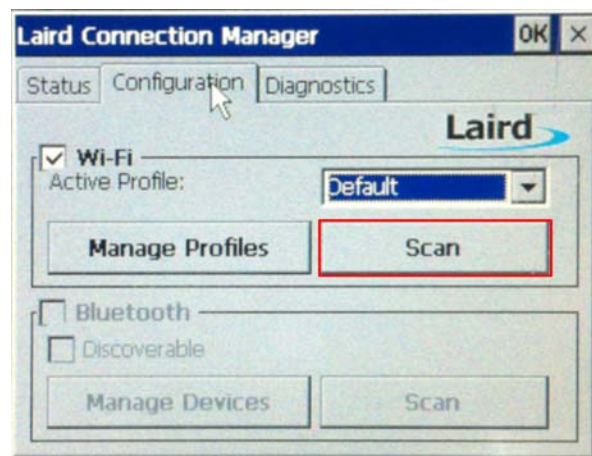

Figure 4-20: Laird Connection Manager
Step 2: The Laird Connection Manager appears (**Figure 4-20**). Click **Scan**.